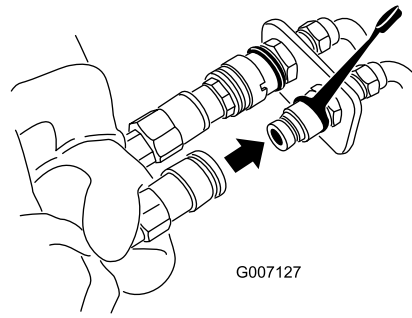

Figure 36
7. Push the attachment female connector into the male connector on the traction unit (Figure 36).